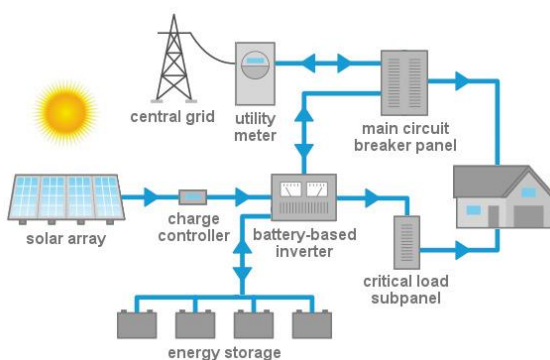

Figure 3: DC-Coupled Solar and Storage System
- ❖ **Dual inverters** are used in a DC-coupled solar and storage system and can accomplish all these functions with a single inverter. A DC-coupled battery stores the DC power produced by solar panels without conversion and can also convert the power to AC for use in a building. Some dual inverters, known as **Grid Forming Inverters**, can also regulate voltage and frequency when the solar and storage system is isolated from the grid. When installing a solar project, choosing a Dual Inverter or Grid Forming Inverter for the solar installation will allow for the future addition of storage at a lower cost. See Figure 3, below.